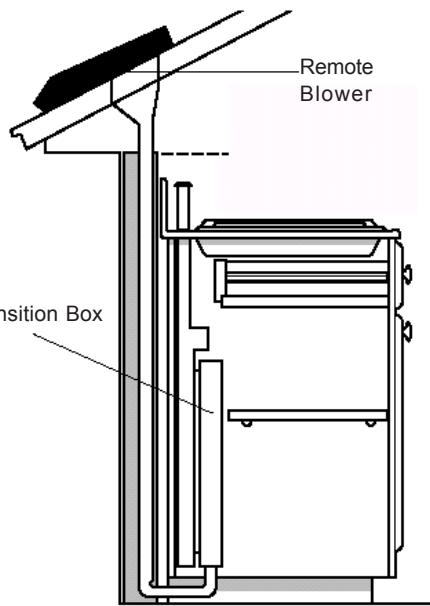

Figure 3
F. Investigate potential ductwork routes and choose the shortest possible route from the unit to an outside wall or to the roof via an inside wall and attic. For guidance, typical ducting installations are shown in figures 3 through 6. Installation in island locations will require under floor ducting. Peninsula locations usually require ducting laterally through cabinets or under cabinet toespaces. Consider potential interferences to ductwork from building framing (floor joists, wall studs, etc.) and utilities (electrical wiring, water, gas, or sewer lines, etc.).
Figures 3 through 6 are examples of possible ducting